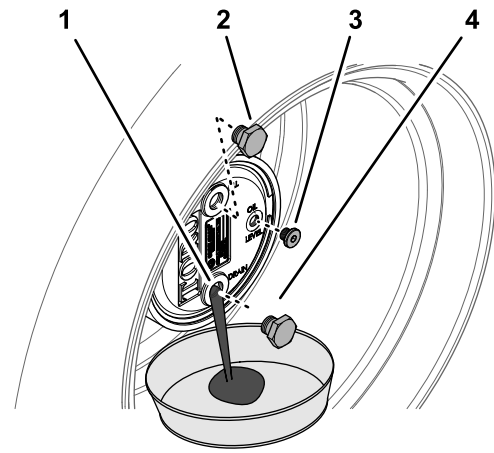

Figure 64
3. Place a drain pan under the planetary hub, remove the drain plug at the 6 o'clock position, and allow the oil to fully drain (Figure 64).
5. Install the drain plug into the drain hole of the planetary housing (Figure 64).
2. Remove the fill plug at the 12 o'clock position and the check plug at the 3 o'clock position (Figure 64).